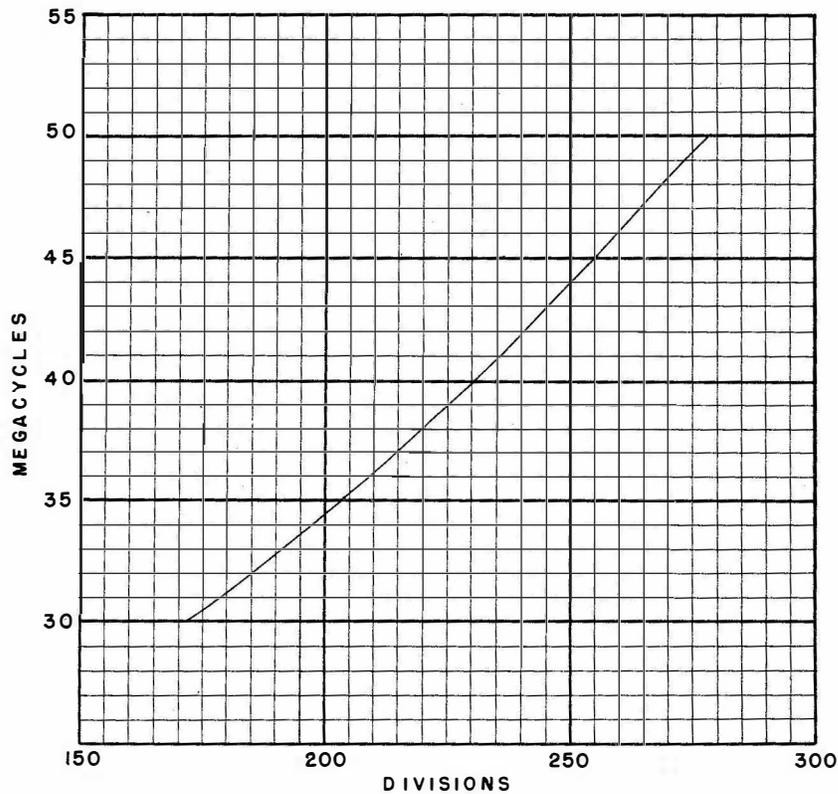

Figure 3-5—Frequency Calibration Curve for Band H
(4) The fourth scale (0-300 divisions), is used when the FREQ. RANGE switch is set at H. This scale is *not direct reading*, but the frequency calibration may be found by reading this division scale (which covers an arc of 180 degrees on the outside of the dial) and then using the frequency calibration curve given in Figure 3-5. The calibration is accurate to within 5 per cent.
f. All the Model LP-5 equipment supplied under this contract use the calibration charts given by Figures 3-2, 3-3, 3-4, 3-5 (Sec. III). These are accurate to within one per cent [for all but the extended frequency range of 30 to 50 megacycles (Band H) where the accuracy is about 5 per cent] and the scales have been so chosen that either the "DIVISIONS" or the "FREQUENCY" scales can be read to at least one part in 1,500. The frequency calibration curve for Band H is given by Fig. 3-5 (Sec. III).